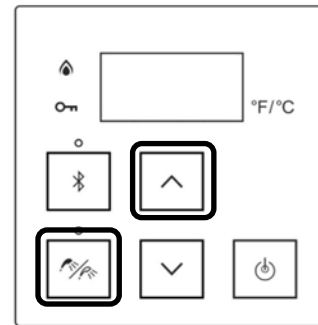

Figure 71
1. To lock the integrated controller, press and hold down the "Priority" button (Figure 71).
2. While holding down the "Priority" button, press the up arrow button (Figure 71) until a beep is heard (approximately 5 seconds). Then, release both buttons at the same time.